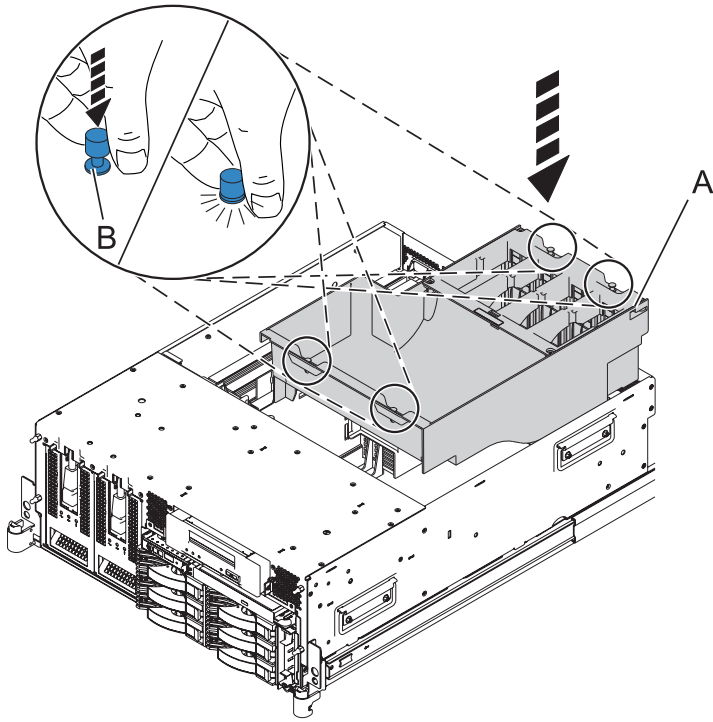

Figure 33. Installing the airflow cover in the 8203-E4A, 8261-E4S, 9407-M15, or 9408-M25 system
- 1) To install the airflow cover, check that the four retaining tabs (**A**) are in open position, place the airflow cover (**A**) into its location, aligning the blue tabs with the holes. Push firmly on the cover to position it, and push the four locking tabs down to secure the cover, as shown in Figure 33.